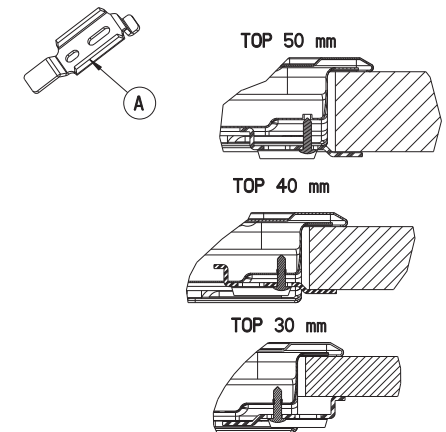

Fig. 1
1. Secure the spring clips (A) (fig. 1) with the screws supplied, paying attention to the specified distances.
- After the electrical connection, fit the hob from the top and hook it to the fixing springs, as shown in fig. 1.